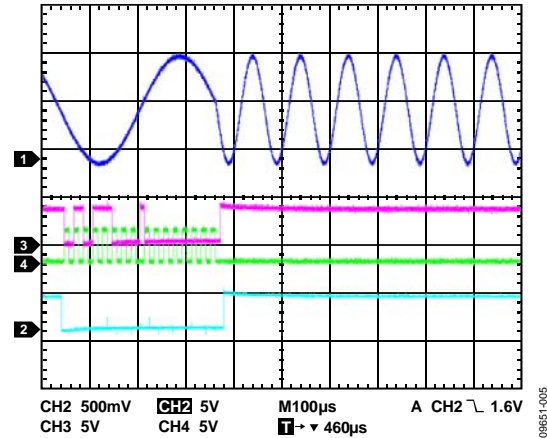

Figure 5. Change FSELECT Bit—0x5800
- A 1 written to Bit D11 to select the FREQ1 register (see Figure 5).